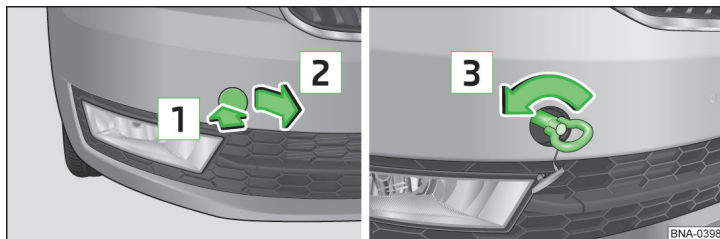

Fig. 95 Remove cap / install towing eye
- To **remove**, press down on the cap in the direction of arrow **1** and remove it in the direction of arrow **2** » fig. 95.
- To **install**, screw in the towing eye by hand in the direction of arrow **3** » fig. 95 until the stop » **!**.